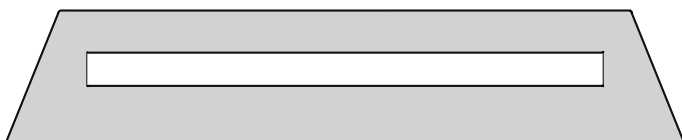

Figure 56
7. Apply crushed glass to the shaded area only. **See Figure 56.** Use enough to cover the area of the fireplace, but do not allow the media to reach higher than the flange surrounding the burner. Never place decorative media inside the flange surrounding the burner itself. This fireplace uses crushed glass. Accent glass droplets (1/2 inch) or glass drops (1 inch), and ceramic fiber rocks and pebbles may be added. Mix colors and glass types, but do not exceed the recommended amount of decorative media.